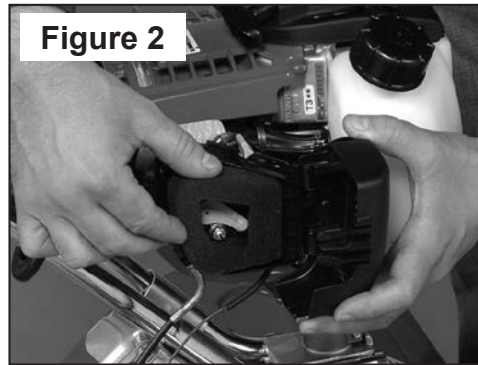

Figure 2
4. If the air filter needs to be cleaned or no longer fits properly, simply remove it by carefully peeling it out of the air cleaner. (**Figure 2**)